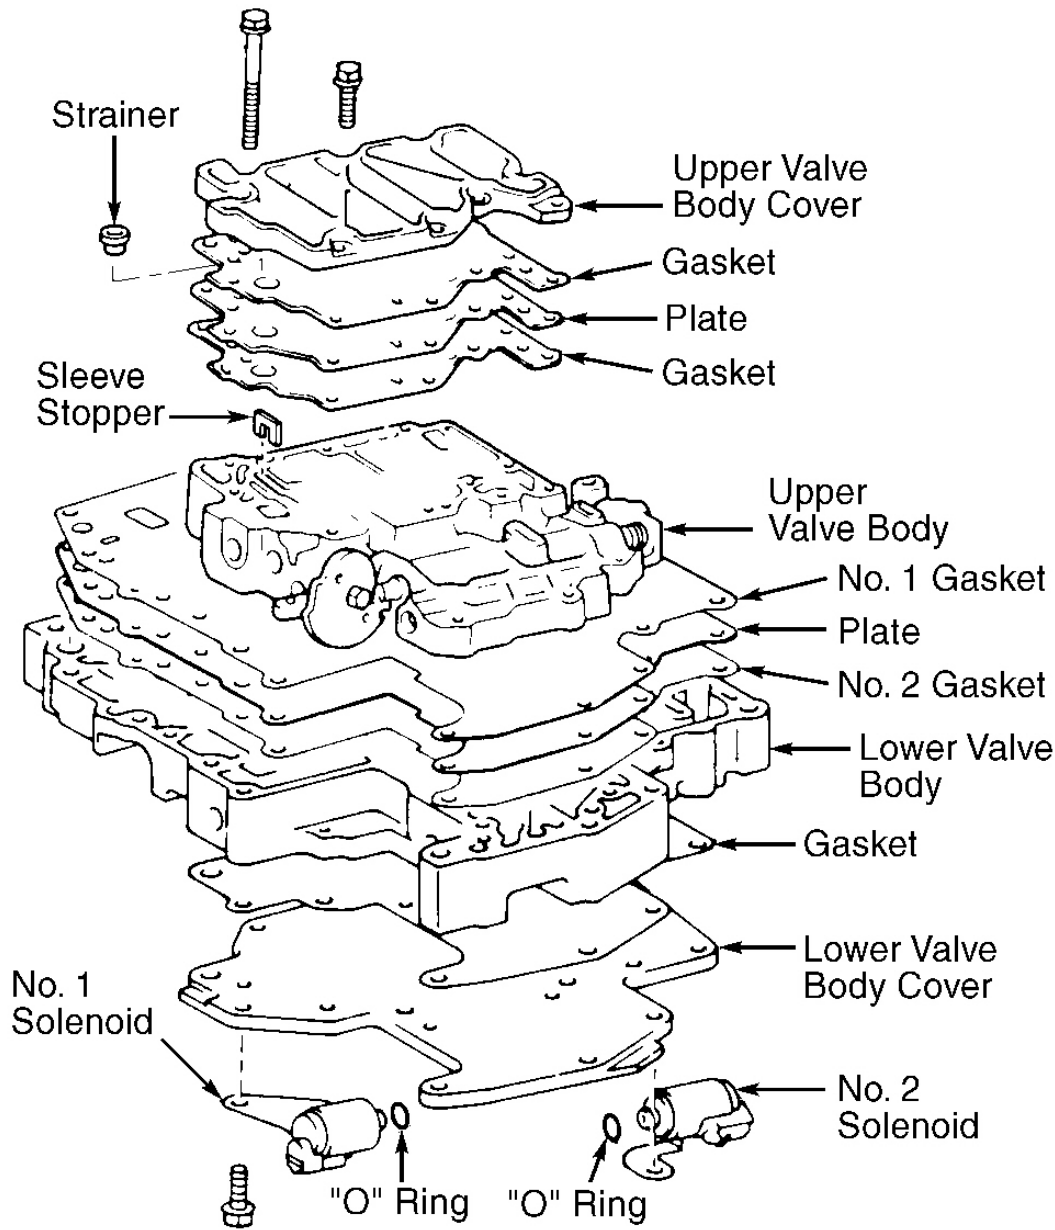

Fig. 31: Exploded View Of Valve Body Assembly
2. Hold plate against lower valve body and carefully remove lower valve body. **DO NOT** lose check balls. Note location of check balls, retainers and pins in valve body. Remove plate and gasket. See **Fig. 31**.